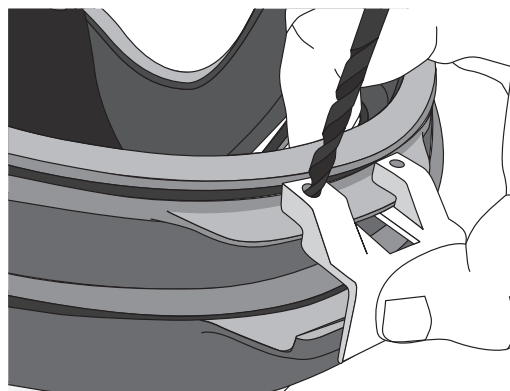

Fig. 3
5. With other hand, line up the drill bit with the holes outlined on the template as shown in Fig. 3.